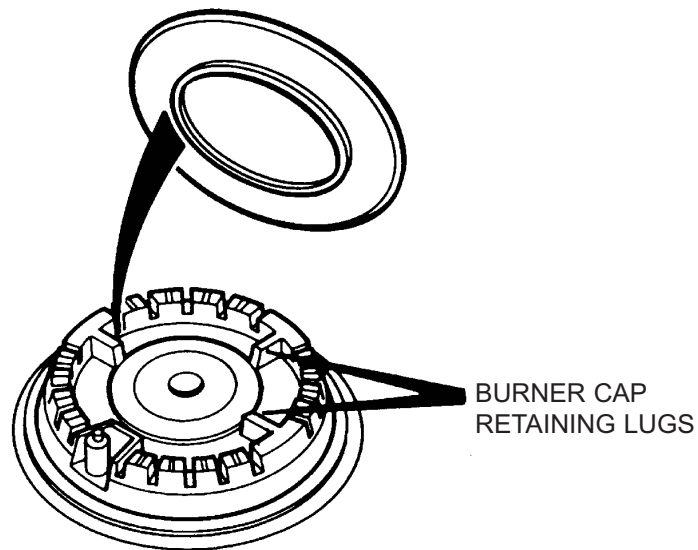

Fig. 13
15. Replace Module hotplate. Re-assemble in reverse order (See section 7). Ensure burner heads and burner caps are correctly located (See Fig. 13, 13a and 13b) and electrodes are not damaged.